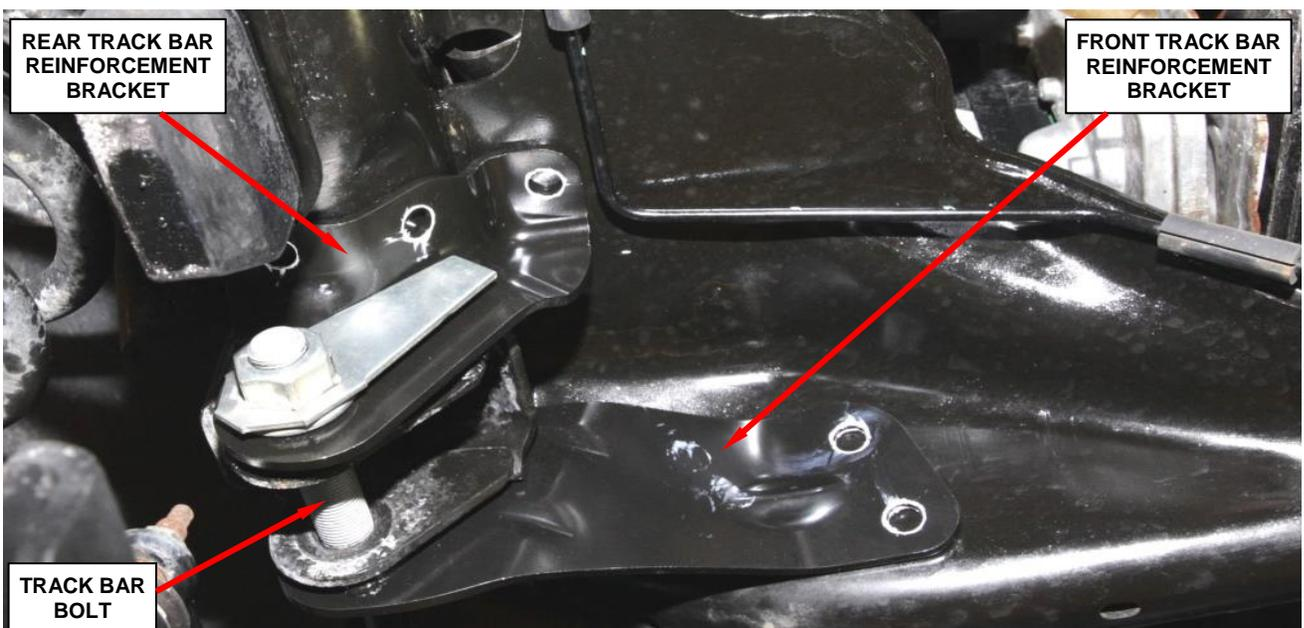

Figure 34 – Track Bar Reinforcement Brackets
5. Carefully install the track bar reinforcement brackets into position. Then install the new track bar bolt and original flag nut snug enough to hold the new brackets in position (Figure 34).